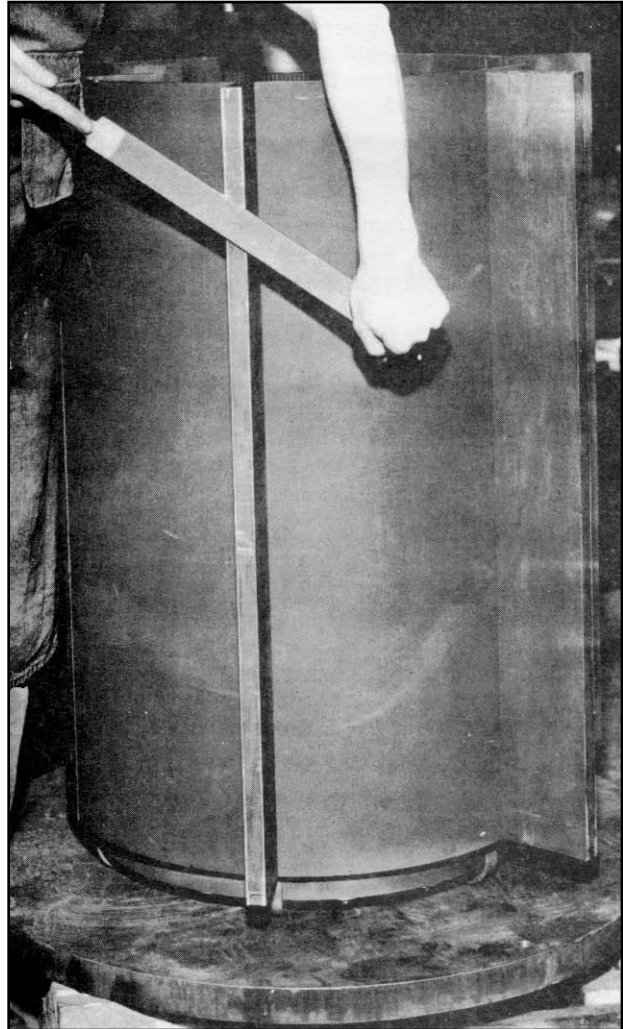

Figure 59
- Support the rotor assembly vertically on wood locks of sufficient height so that the blade ends can be dressed down the full length, Figure 59.